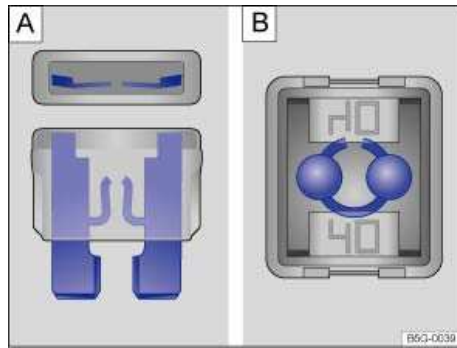

Fig. 184 Blown fuse: A: Blade fuse. B: JCASE® fuse.
- A blown *blade fuse* (ATO®, MINI®) has metal strips that have burned through, which you can see through the transparent housing from above and from the side ⇒ fig. 184 A.